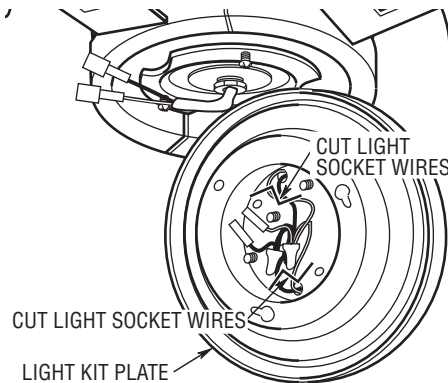

Figure 22
2. Disconnect the black wire of the light kit plate from the black wire of the fan motor/housing assembly. Disconnect the white wire of the light kit plate from the white wire of the fan motor/housing assembly (Figure 22).